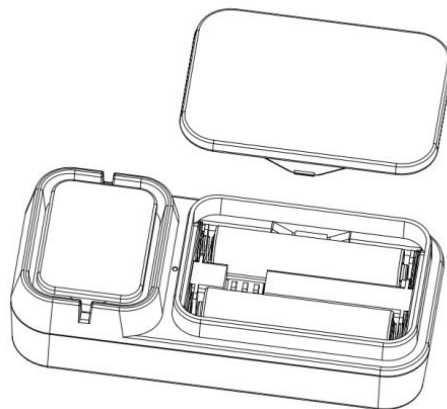

Figure 2
- Remove the battery door as shown in Figure 2.